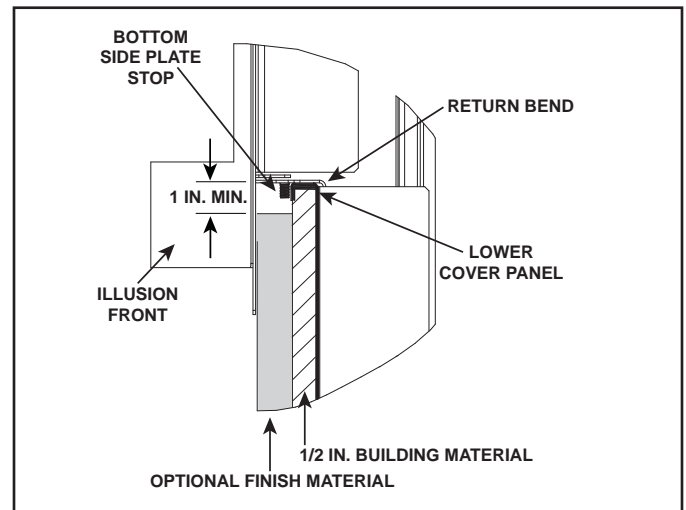

Figure 13.9. Illusion Front, Side View - Bottom Side Plate Installed Over Lower Cover Panel
**ILLUSION:** Requires a minimum of 1 inch clearance to the non-combustible finishing material from the bottom fireplace opening. See Figure 13.9.